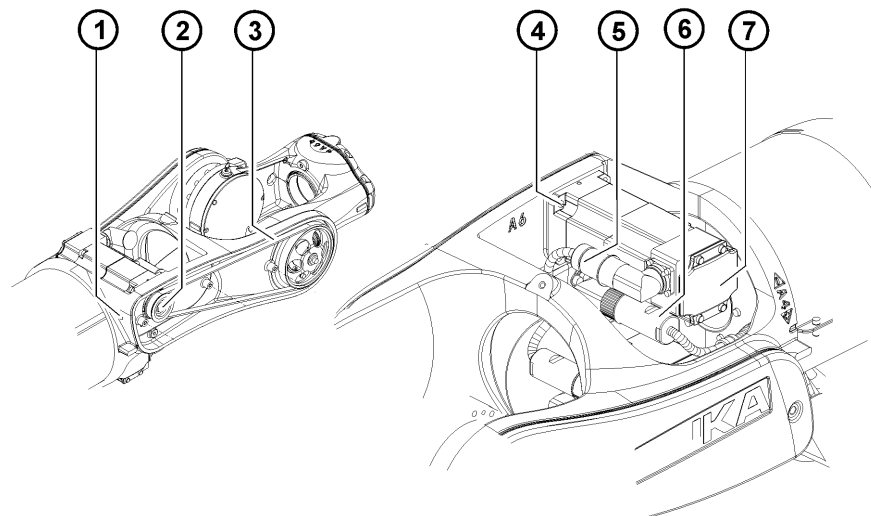

Fig. 11-16: Installing motor A6
5. Align and insert motor A6 (>>> Fig. 11-16) as shown in the illustration. When inserting toothed belts, fit them on the toothed belt pinions (2). When fitting the toothed belt, it must be ensured that it meshes properly with both toothed belt pinions.